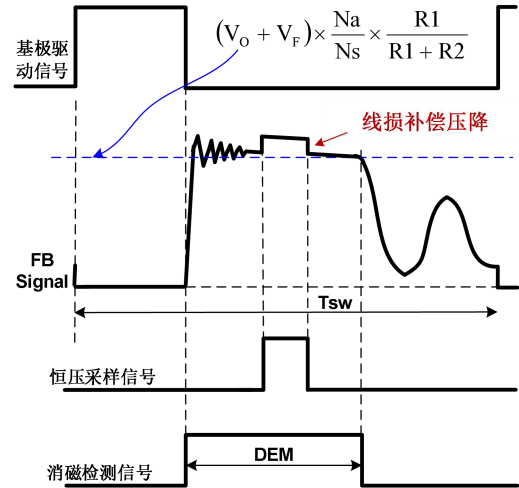

Fig 2
In Primary Side Regulation (PSR) control, the output voltage is sensed on the auxiliary winding during the transfer of transformer energy to the secondary. Fig.2 illustrates the timing waveform of CV sampling signal, demagnetization signal (DEM). When the CV sampling process is over, the internal sample/hold (S&H) circuit captures the error signal and amplifies it through the internal Error Amplifier (EA). The output of EA is sent to
During the CV sampling process, an internal variable current source is flowing to FB pin for Cable Drop Compensation (CDC). Thus, there is a step at FB pin in the transformer demagnetization process, as shown in Fig.2. Fig.2 also illustrates the equation for "demagnetization plateau",